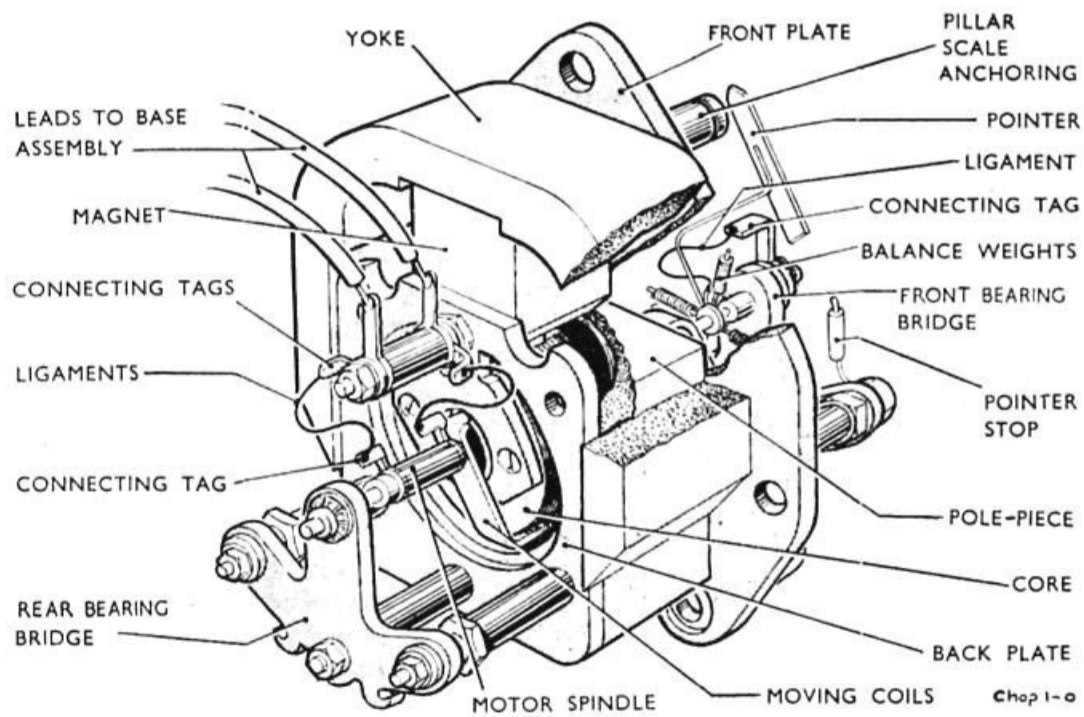

Fig. 3. Indicator movement, rear view
10. This assembly (*fig. 3*) consists of a permanent magnet and yoke, two moving coils mounted on a common former, a rear bearing bridge, front bearing bridge and a pointer return unit. The block magnet, over which is fitted the U-shaped soft iron yoke, is of high field strength, the south pole face of the magnet being in contact with the yoke.